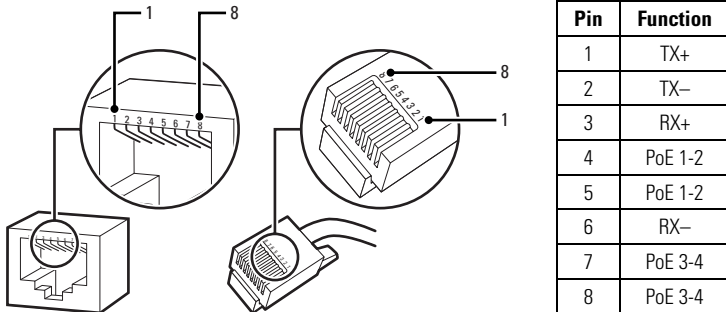

Figure 3. Pin Descriptions
3. Connect the network cable to the RJ-45 network port located at the back of the camera (refer to Figure 3).